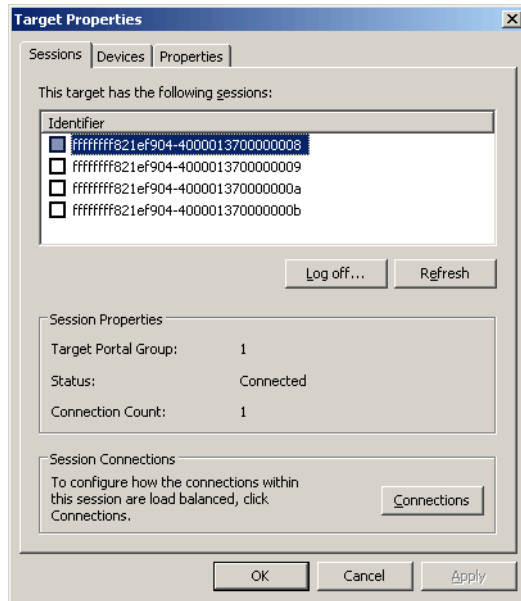

Figure 23-35 Target properties
11. After the iSCSI sessions are created to each target portal, you can see details of the sessions. Select the iSCSI target in the target list (Figure 23-34) and click **Details**. See Figure 23-35 on page 567.